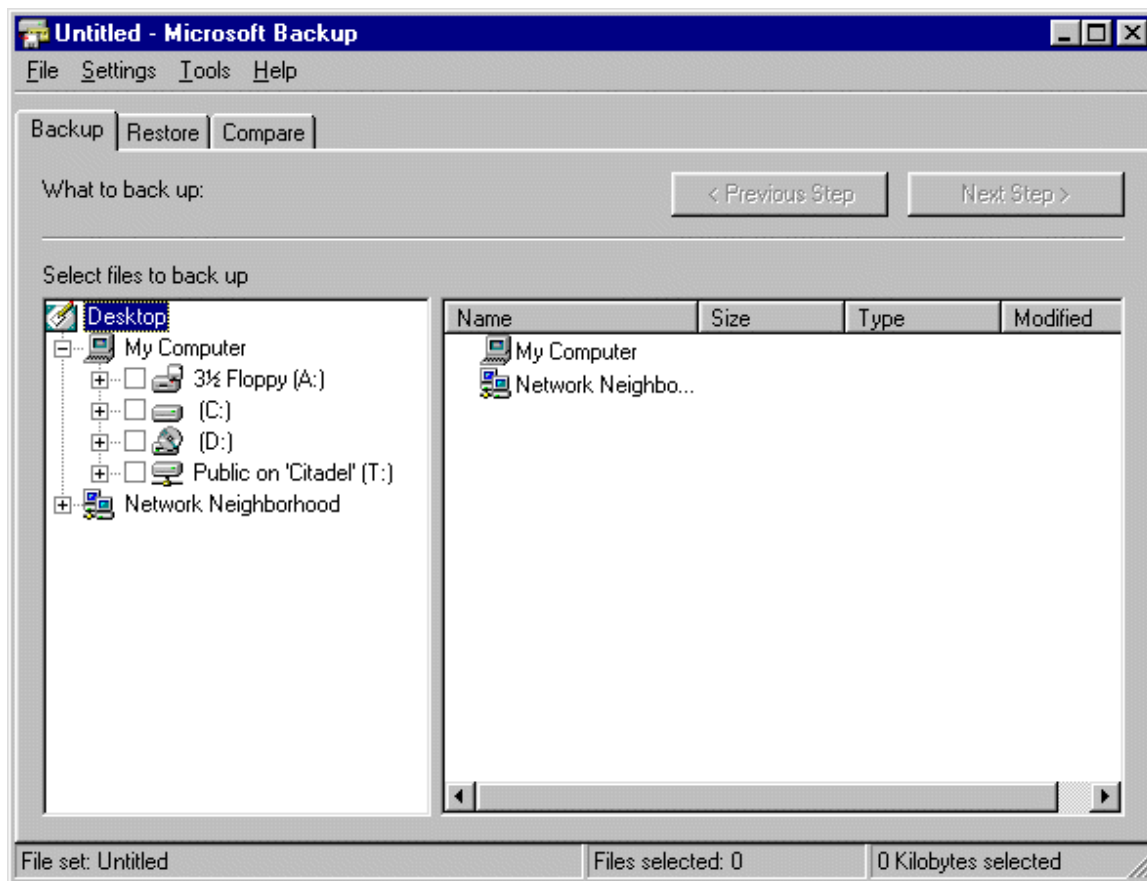

Figure 19 Microsoft Backup
- After which a screen like Figure 19 will appear.